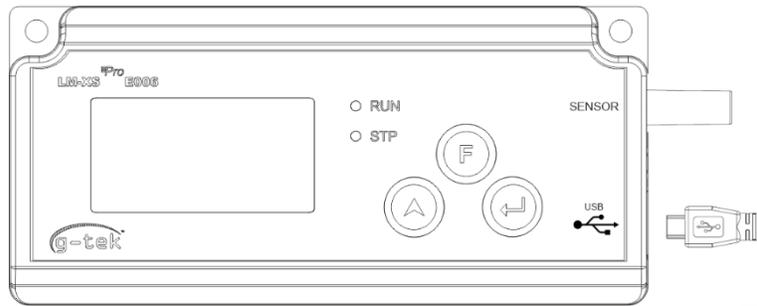

Figure 21 Micro USB Attachment
- Connect the LM-XS Pro E006 data logger to Windows PC via the USB Type-A port, as shown in figure 21.